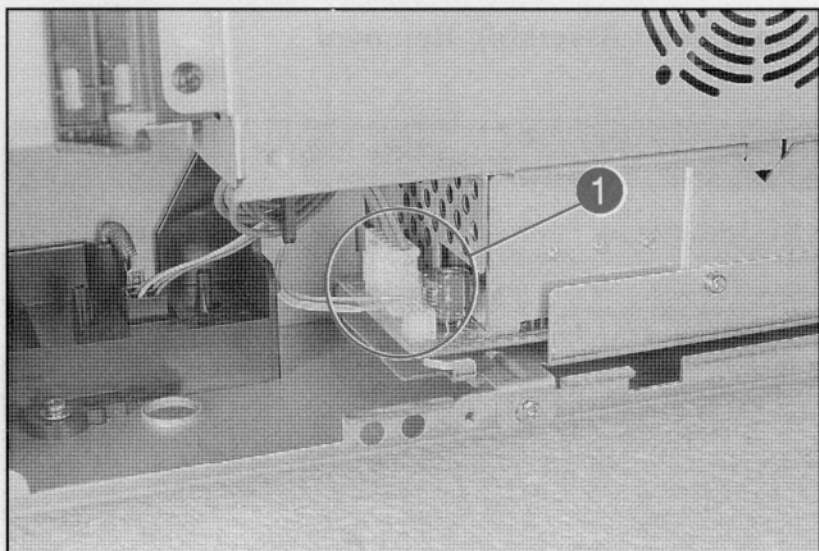

Figure 6-15 6-wire and 3-wire Connectors for the Power Supply
- 6** Remove the (2) connectors (6 wire and 3 wire). (See Figure 6-15, callout 1.) Squeeze the release tab on the 6-wire connector. Pull the 3-wire connector straight up.